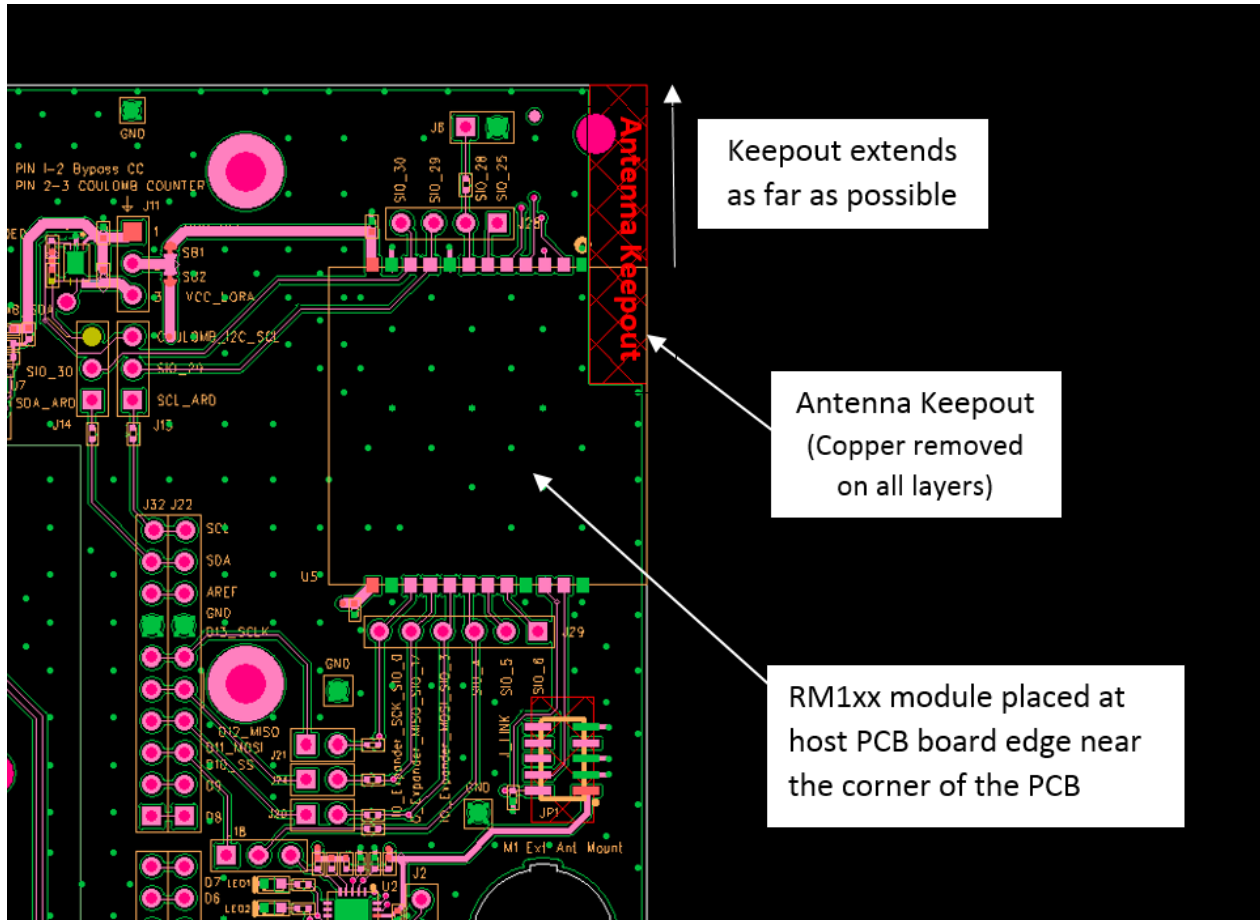

Figure 8: Antenna keepout on DVK-RM1xx PCB (shown in red) with RM1xx module placed near the corner.
- The RM1xx development board has the RM1xx module on the edge of the board (not in the corner). The antenna keep-out area is defined by the RM1xx development board which was used for module development (and antenna performance evaluation) is shown in Figure 8, where the antenna keep-out area is composed of PCB dielectric (no copper) sitting under the RM1xx antenna.
- The antenna-keep-out defined in Host PCB Land Pattern and Antenna Keepout applies when the RM1xx is placed in the corner of the host PCB. When RM1xx-SM cannot be placed as such, it must be placed on the edge of the host PCB and the antenna keep out must be observed. An example is shown in Figure 8.